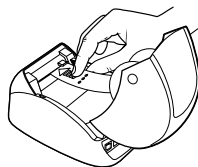

Figure 10
- 6 Cut the first label in half so that you have a clean edge and insert the label into the label feed slot. See Figure 10.